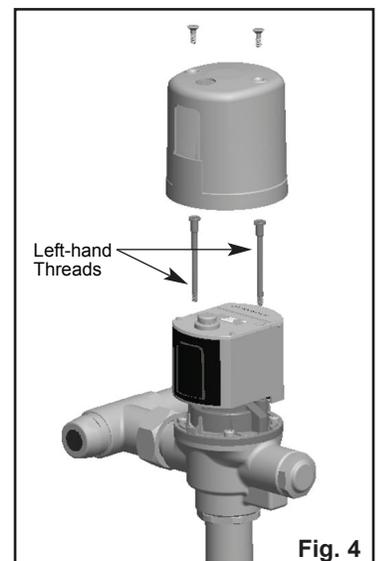

Fig. 4
- Remove the two brass hold-down adaptors. **NOTE:** Left-hand threads! See Figure 4.